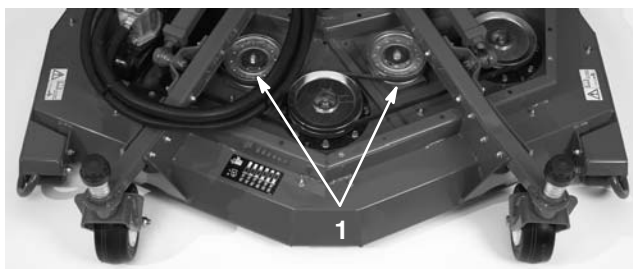

Figure 82
1. Loosen the nut on the idler until the pulley idler bolt can slide freely within the slot (Fig. 82).
2. The proper belt tension will be attained when a force of 45 lb. on a used belt is applied to the idler pulley (Fig. 82) when sliding it into the belt.